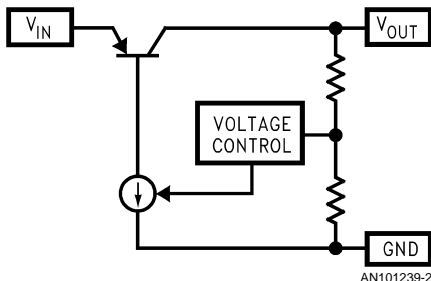
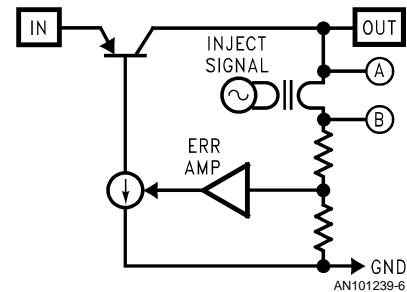

FIGURE 2. PNP LDO REGULATOR
FIGURE 6. LOOP GAIN EXAMPLE
In the low-dropout (LDO) regulator, the pass transistor is a single PNP transistor (Figure 2). The big advantage of the LDO is that the PNP pass transistor can maintain output regulation with very little voltage drop across it:
back signal experiences as it travels through the loop. The block diagram of the LDO in Figure 2 will be redrawn to illustrate this concept (Figure 6).
**Feedback** is used in all voltage regulators to hold the output voltage constant. The output voltage is sampled through a resistive divider (Figure 6), and that signal is fed back to one input of the error amplifier. Since the other input of the error amplifier is tied to a reference voltage, the error amplifier will supply current as required to the pass transistor to keep the regulated output at the correct DC voltage.
The PNP transistor in an LDO regulator (Figure 2) is connected in a configuration called **common emitter**, which has a higher output impedance than the common collector configuration in the NPN regulator. This adds an additional low-frequency pole **whose frequency is dependent both on load resistance and output capacitance**. The frequency of this pole (which will be designated  $P_L$  for **load pole**) is found from: